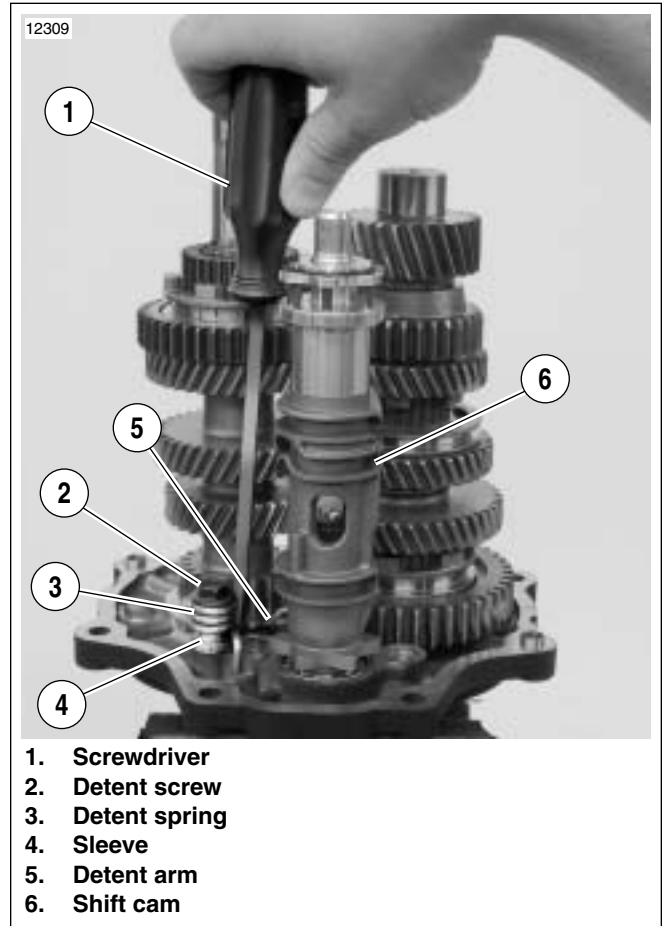

Figure 10. Shift Cam and Detent Assembly
22. See Figure 10. Insert screwdriver (1) and gently pry back detent arm (5) to remove detent spring (3) tension from shift cam (6). Remove shift cam.
23. Remove detent screw (2), detent spring, sleeve (4) and detent arm. Discard detent screw.
3. See Figure 10. Using screwdriver (1), pull detent arm (5) back and install **new** shift cam (6) (Part No. 33413-06 from recall parts kit).